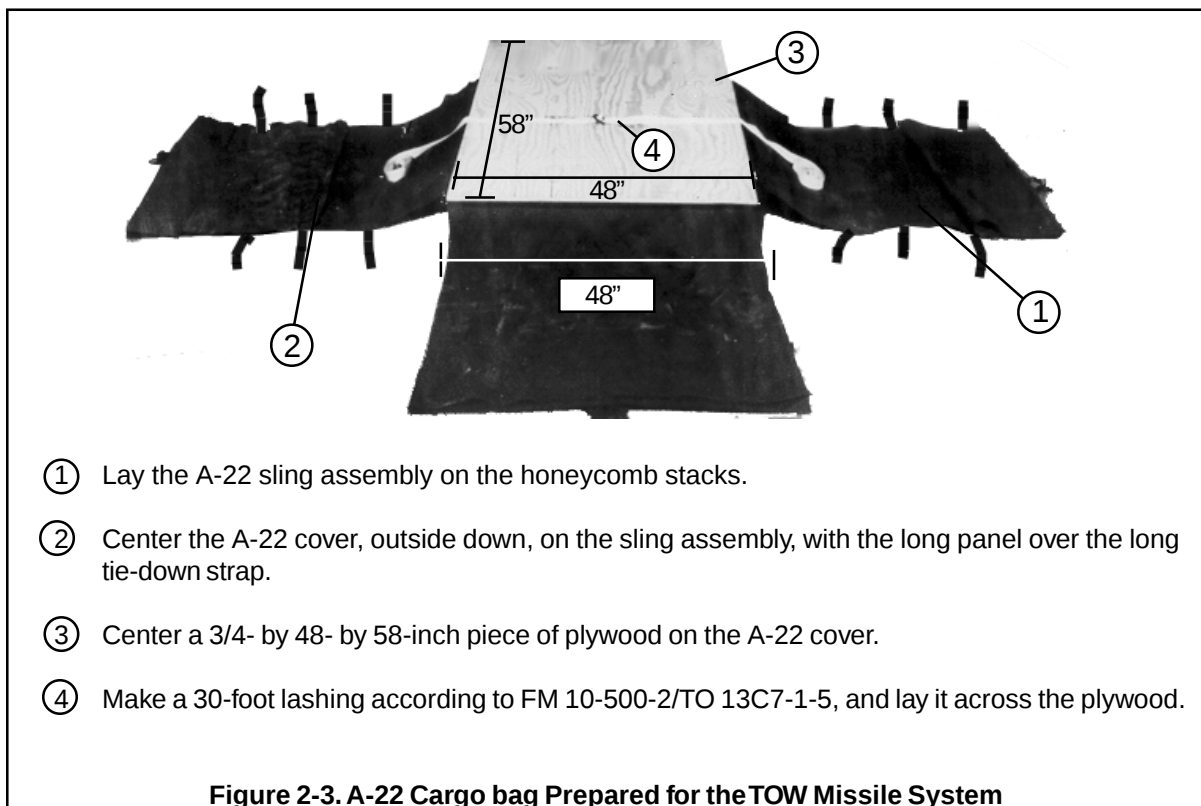

Figure 2-3. A-22 Cargo bag Prepared for the TOW Missile System
- b. Lay out the A-22 cargo bag as shown in Figure 2-3.